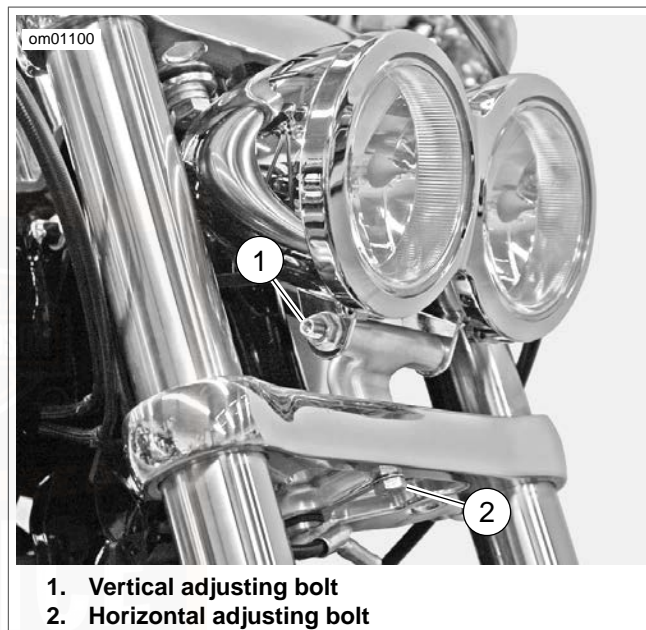
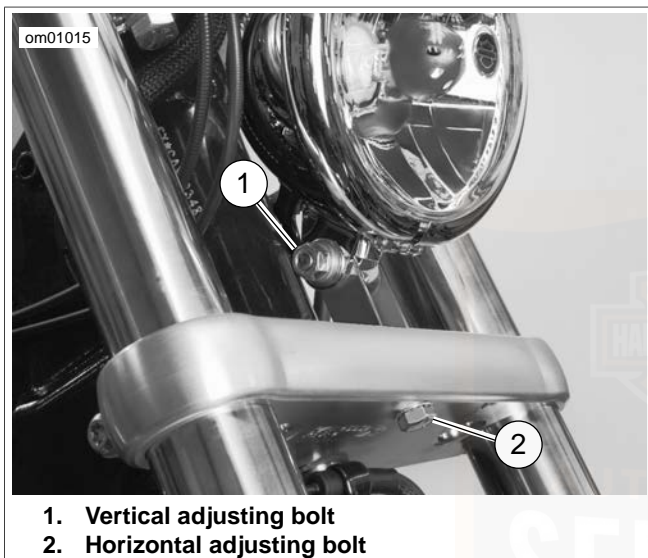

Figure 41. Headlamp Adjustment: FXDF Models
Figure 42. Headlamp Adjustment
1. See Figure 41 (FXDF) or Figure 42 (other models). Loosen horizontal adjusting bolt (2) to adjust headlamp beam side to side. Tighten bolt to 25-30 ft-lbs (33.9-40.7 Nm).
2. Loosen nut on vertical adjusting bolt (1) to adjust headlamp beam up or down. Tighten bolt to 25-30 ft-lbs (33.9-40.7 Nm).